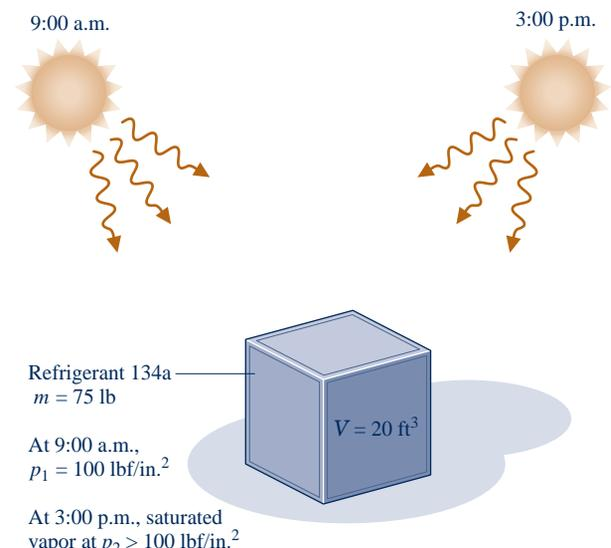

Fig. P3.59
- 3.59** As shown in Fig. P3.59, a rigid, closed tank having a volume of 20 ft³ and filled with 75 lb of Refrigerant 134a is exposed to the sun. At 9:00 a.m., the refrigerant is at a pressure of 100 lbf/in.². By 3:00 p.m., owing to solar radiation, the refrigerant is a saturated vapor at a pressure greater than 100 lbf/in.². For the refrigerant, determine (a) the initial and